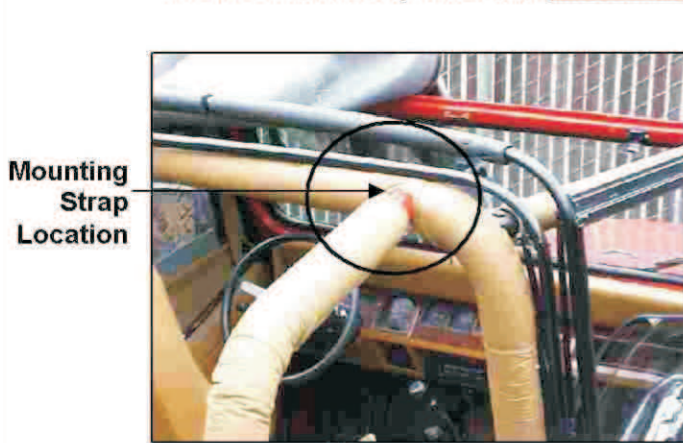

Figure 2
1. **92-95 Wrangler ONLY:** Secure the factory cross bar (Rear Bow) to the roll bar (Figure 2), using the included strap.